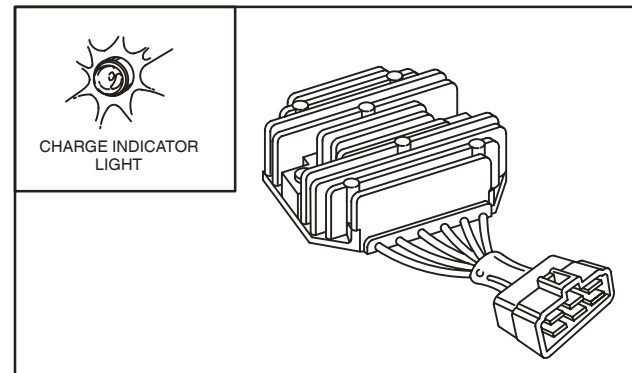

Fig. 12 – Regulator-rectifier
2. The regulator-rectifier converts the AC current to DC and regulates current to the battery, Fig. 12. The charging rate will vary with engine RPM. The regulator-rectifier is equipped with a charging indicator light circuit.